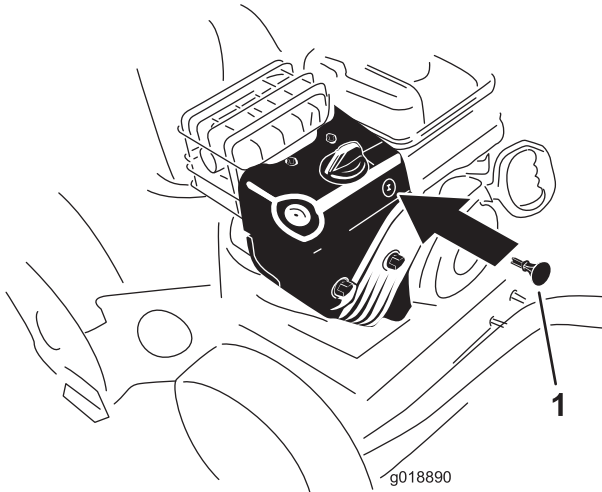

Figure 21
3. Insert the ignition key (Figure 21).